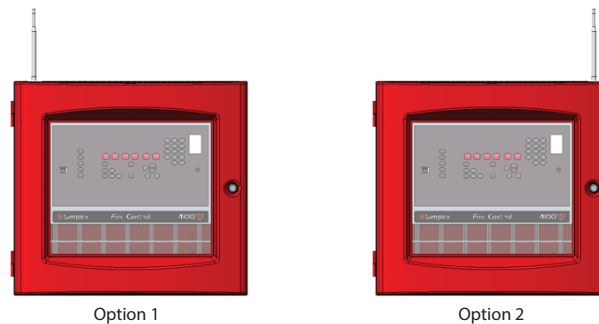

Figure 4. Primary antenna mounting examples
- Always vertically align the primary antenna. You can mount this antenna close to either the top left or right edge of the FACU to conserve space on the unit for conduit entry. See Figure 4.